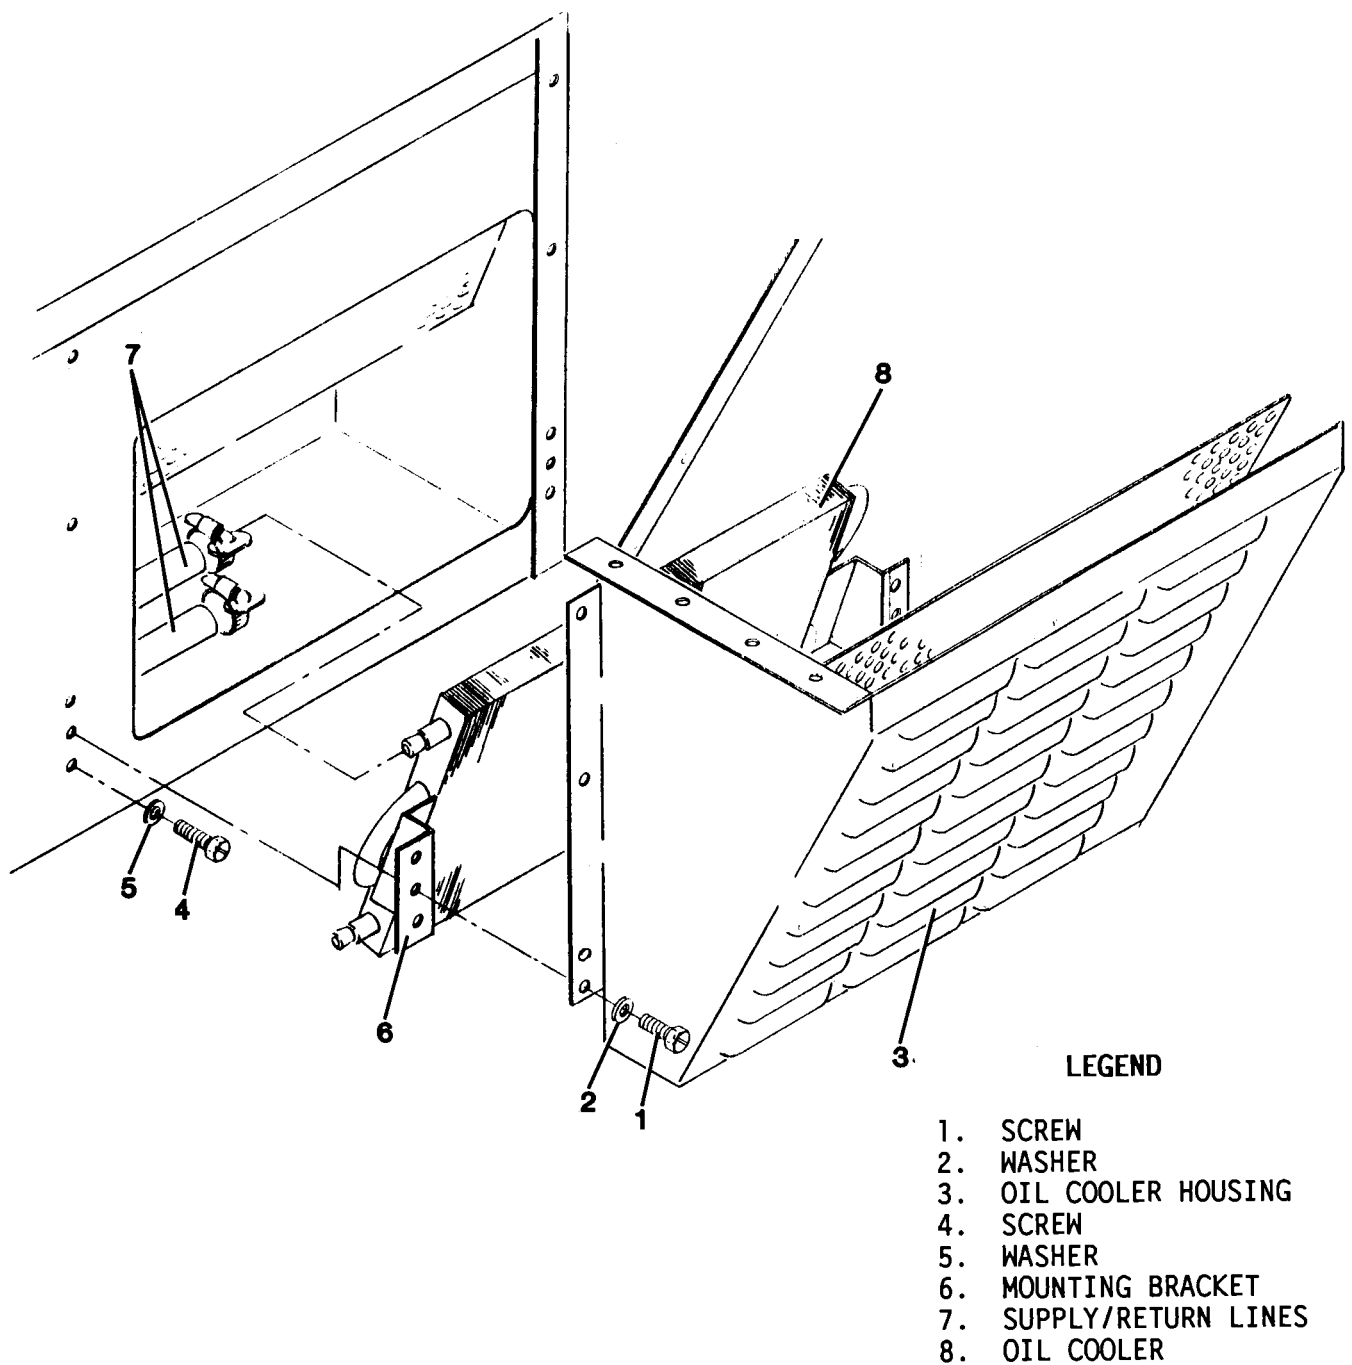

Figure 4-34. Oil Cooler Service
4-54. OIL COOLER. Maintenance of the oil cooler (figure 4-34) is limited to inspection and service. Oil is pumped from the gearbox reservoir, through the low oil pressure switch, and then to the oil cooler where it is cooled. The oil then flows through the return line back to the reservoir.
(4) Set handbrake and chock both wheels.
(5) Remove screws (1, figure 4-34), washer (2), and oil cooler housing (3).
(6) Inspect oil cooler fins for bends or tears. Straighten bent fins. If fins are torn, refer to direct support for maintenance.
(7) Ensure that oil cooler supply and return lines (7) are securely connected.